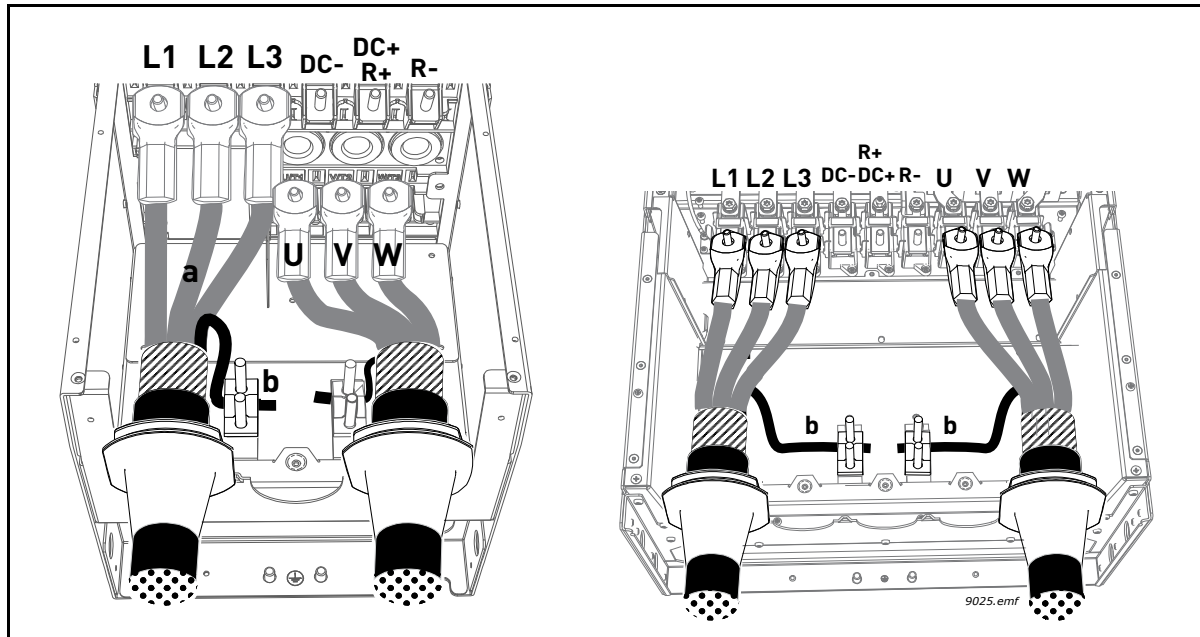

Figure 45. Connecting power cables, left: MR8, right: MR9
- Form the rest of the cable shield of all cables into "pigtails" and make a grounding connection as shown in Figure 45 (b) using the clamp from the *Accessories bag*.